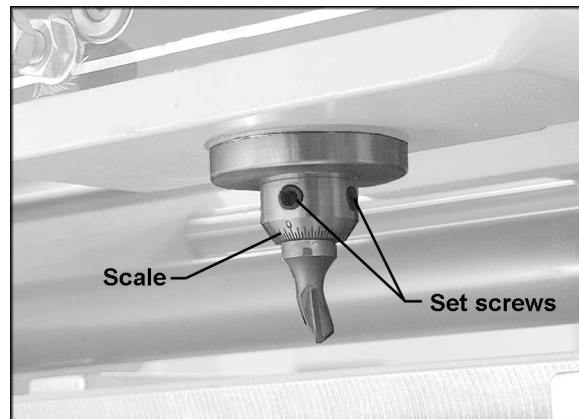

Figure 23
3. You will notice the cutter, shown in Figure 23, is slightly off center of the spindle. The spindle is eccentric and allows the cutter to be turned to a different position on the spindle.
4. Loosen both set screws on the spindle (Figure 23) by turning them counterclockwise with a 4mm hex wrench.
To replace the cutter, loosen both set screws (Figure 23) and carefully pull down on the cutter until it is free from the spindle. Place the new cutter in the spindle and tighten both set screws.